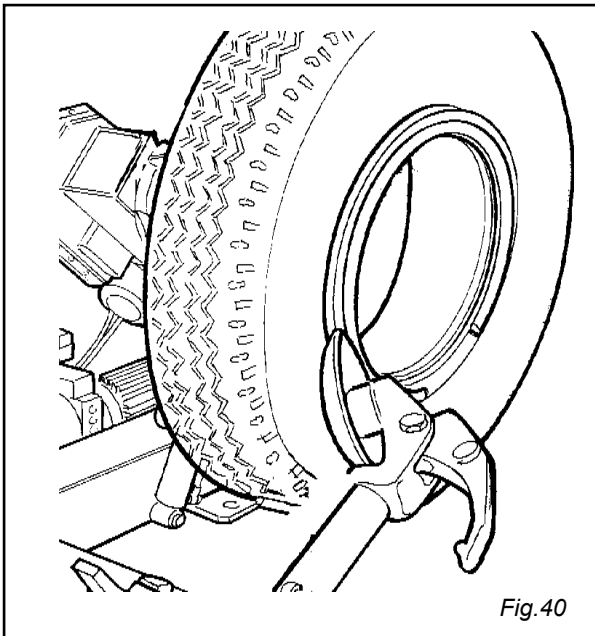

Fig.40
- 3) Position the bead loosening as levelled with the rim (Fig. 40).